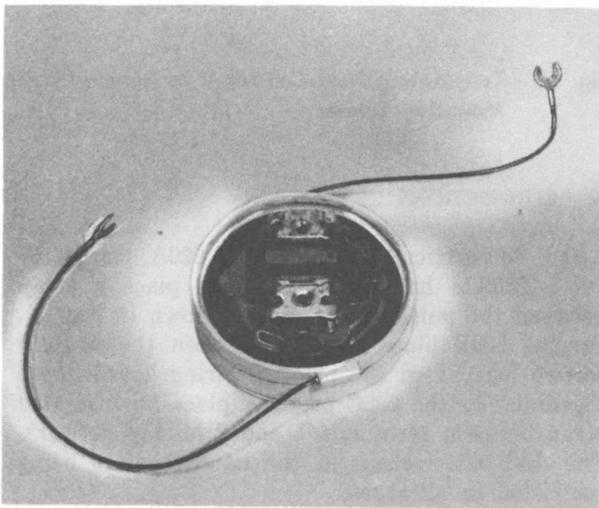

Fig. 12—Receiver Unit and Gasket Installed in Coil Assembly
- (6) With the receiver unit in place in the coil assembly, install the gasket on top of the receiver unit (Fig. 12). Place complete assembly in the chassis assembly receiver cup.